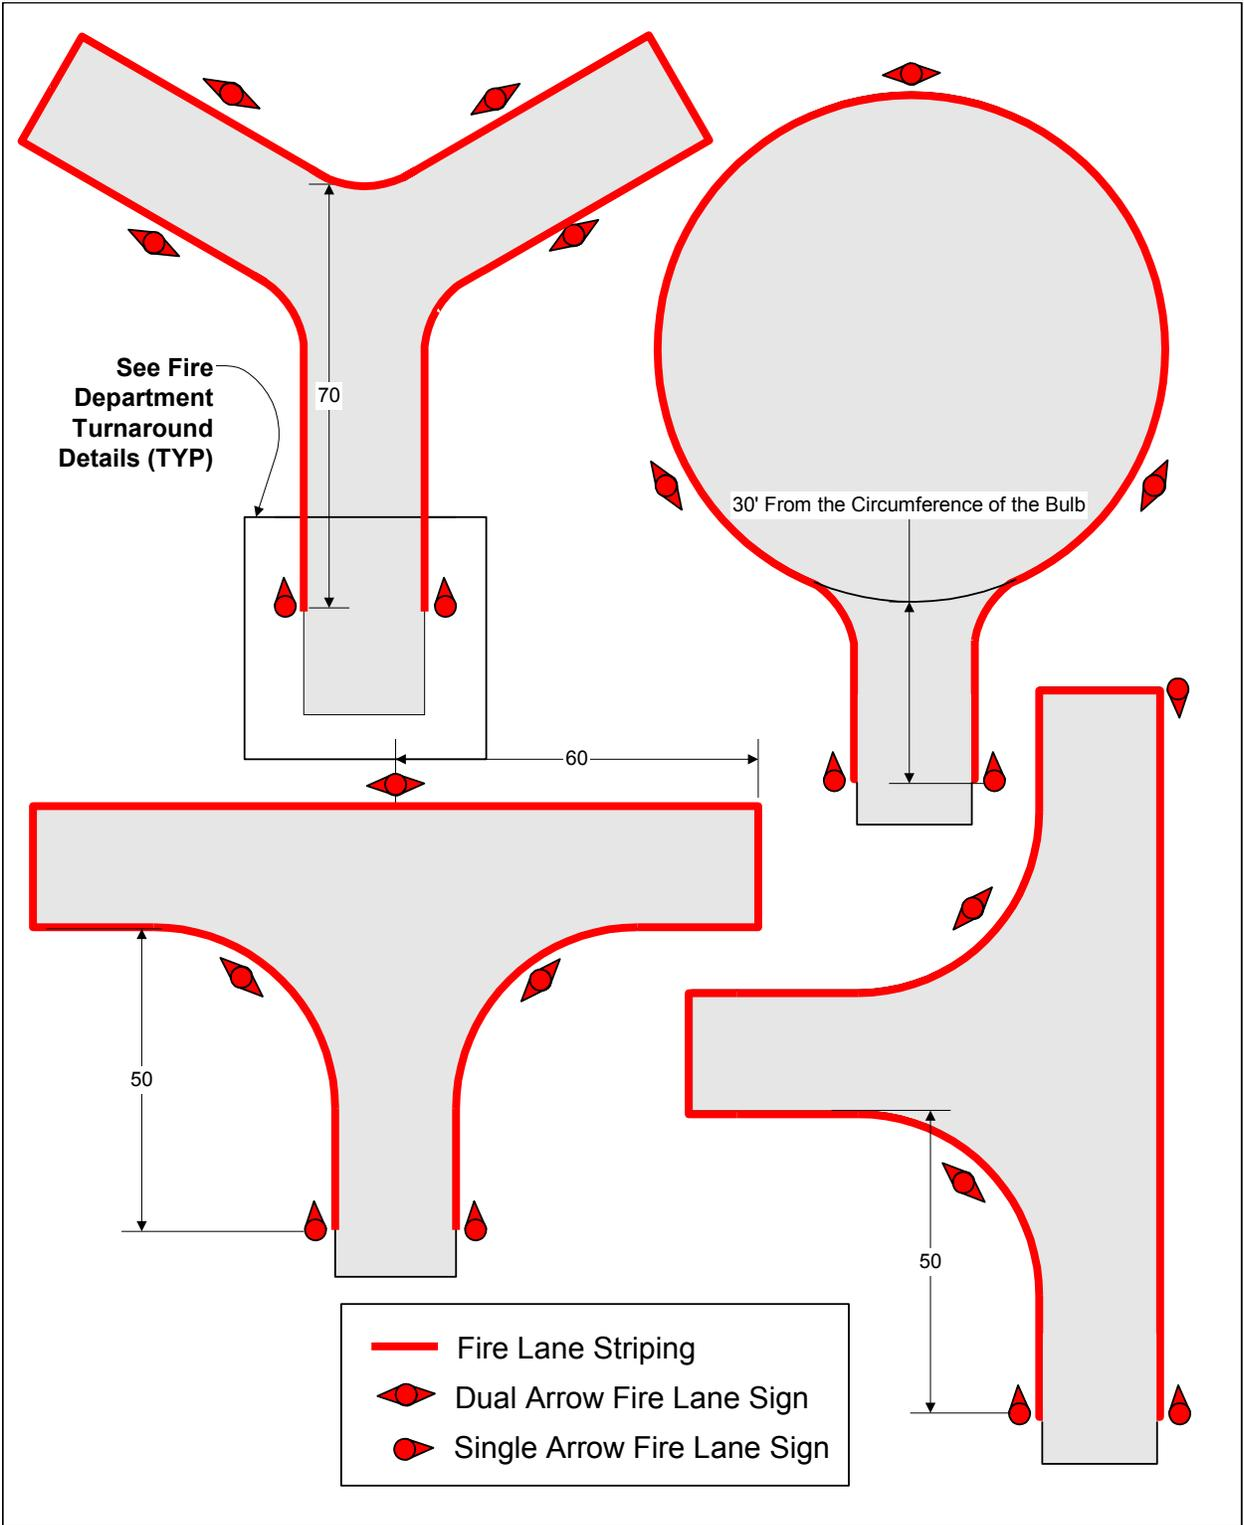

Figure 1 - Fire lane marking requirements for various FD turnarounds
1.2. Fire Department Required Turnarounds. When a fire department turnaround is required for a given site, the turnaround shall be marked as indicated in Figure 1. Note that both fire lane signage and fire lane striping is shown. This is for illustration purposes only. Either the signage or striping is required. However, both methods may be used if desired.